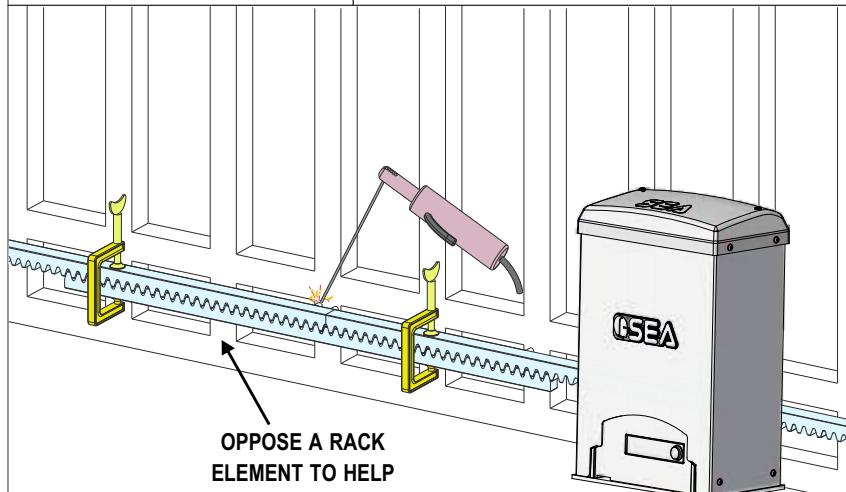

Fig. 9
- 6.4. Make sure that all the gear rack elements are perfectly aligned and correctly placed (**the teeth must be in phase**). It is suggested to oppose an element to two aligned elements as shown in Fig. 9;